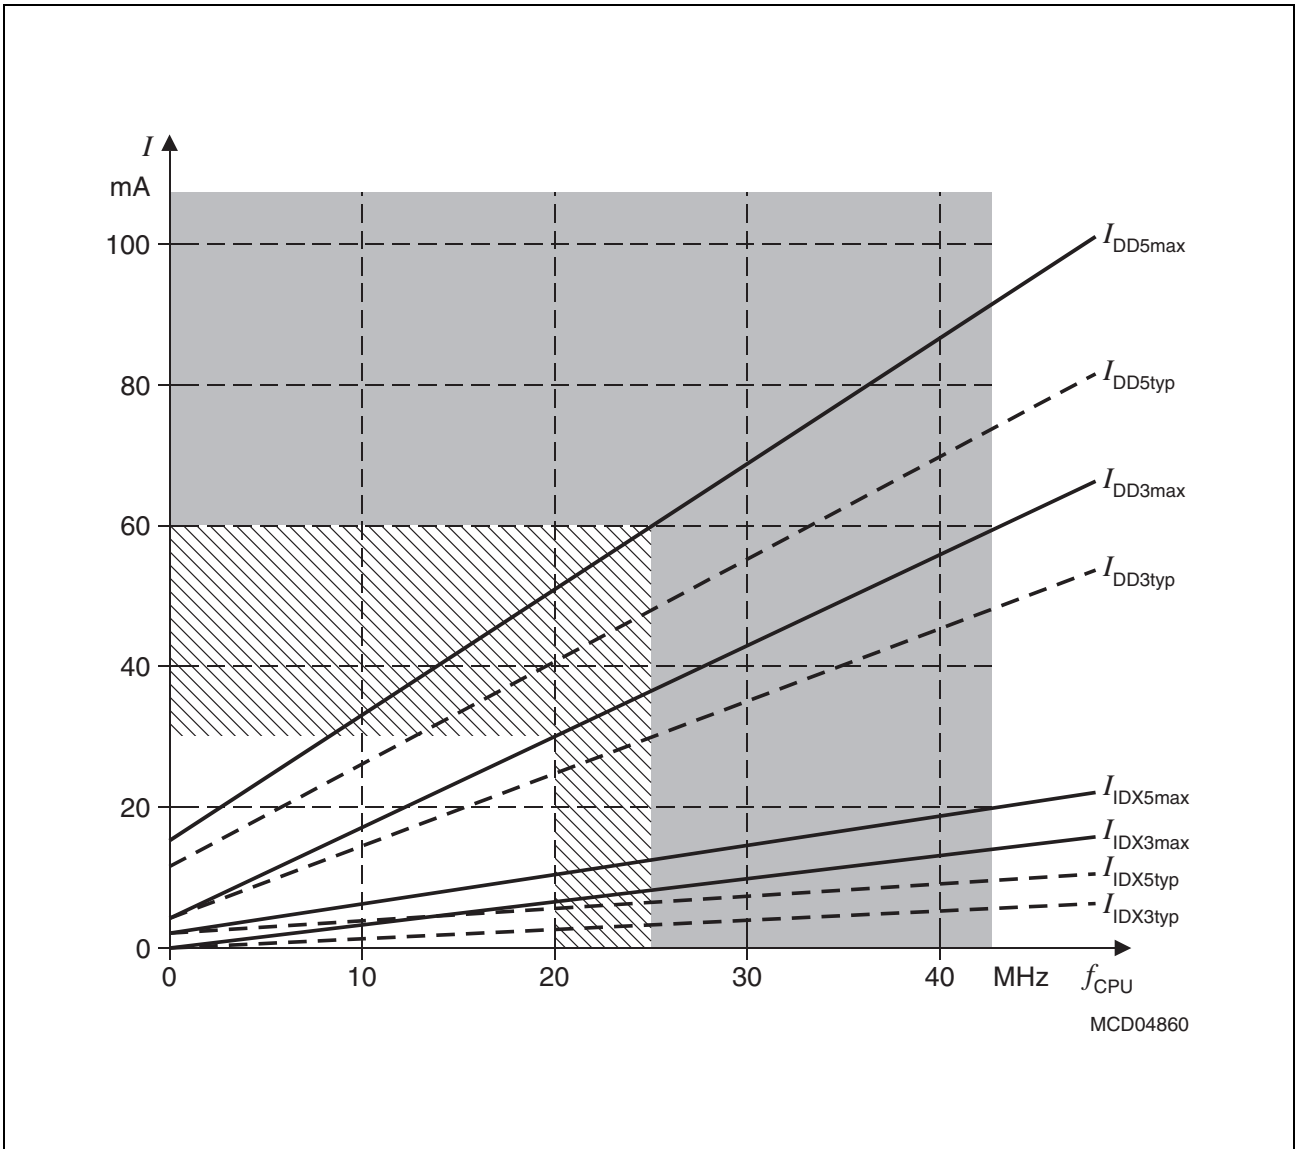

Figure 7 Supply/Idle Current as a Function of Operating Frequency
- 1) The supply current is a function of the operating frequency. This dependency is illustrated in Figure 7. These parameters are tested at V_{DDmax} and maximum CPU clock with all outputs disconnected and all inputs at V_{IL} or V_{IH} .